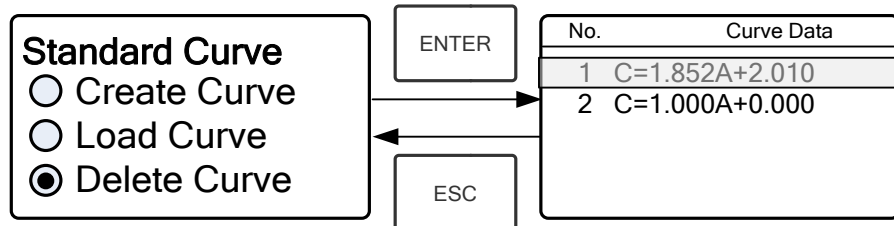

Fig. 4-17
(7) Delete Curve
- ★ Move the cursor on "Delete Curve" and press  to confirm. Then the system goes into the curve equation choosing interface. (Fig. 4-17)